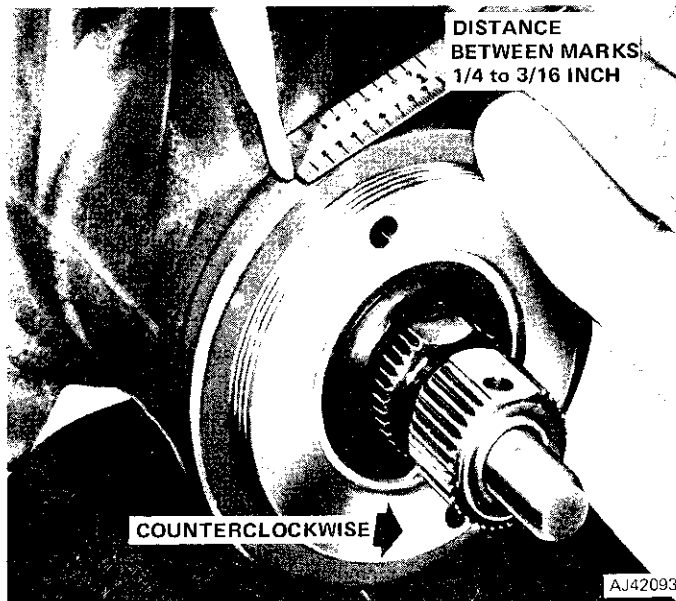

Fig. 2L-42 Remarking Housing
(3) Measure back (counterclockwise) 3/16 to 1/4 inch (4.7 to 6.35 mm) from first index mark and remark housing (fig. 2L-42).
(4) Turn adjuster plug counterclockwise and align adjuster plug hole with second mark made on housing.
(5) Install adjuster plug locknut. Place spanner wrench on adjuster plug to prevent it from turning and tighten locknut to 85 foot-pounds (115 N•m) torque using tool J-25194. Do not allow the adjuster plug to turn while tightening locknut.
(6) Turn stub shaft clockwise to stop, then turn stub shaft back one-quarter turn.